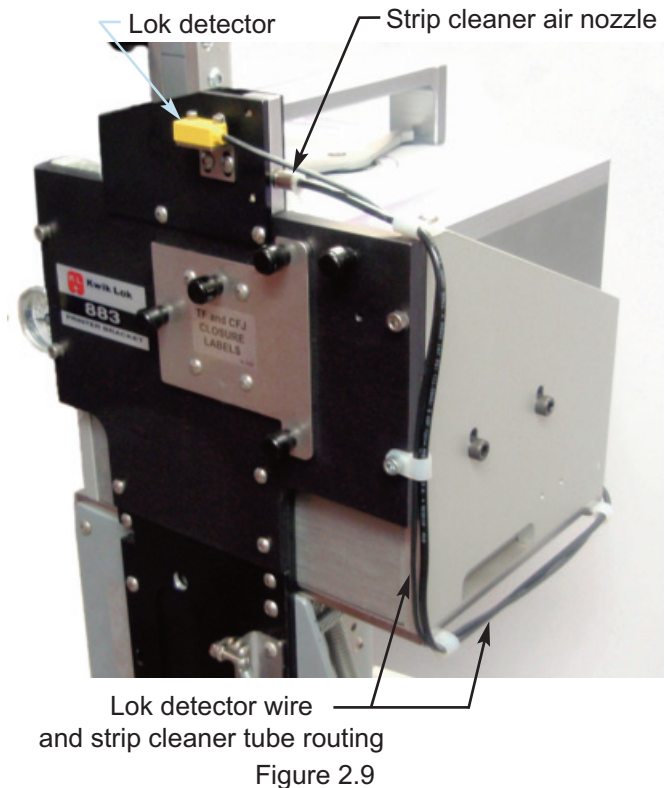

Figure 2.9
8. Mount the lok detector to the front air channel. Route the cable around the back of the printer and secure as shown in Figure 2.9.
2. Connect the 40" x 5/32" tube from the manual air valve to the (strip cleaner) air nozzle. Route the tubing around the back of the printer and secure as shown in Figure 2.9.